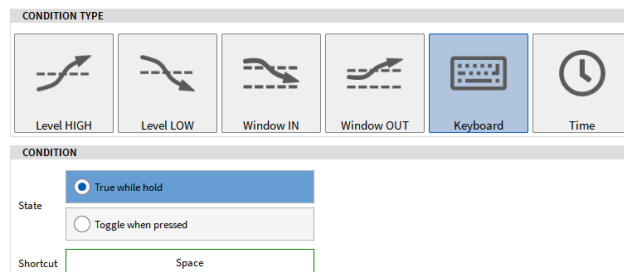

Figure 7-32: Space key Condition type
- Select *Keyboard Condition Type* and *True while hold* as Condition State with the *Space* key as *Shortcut* (see Figure 7-32):